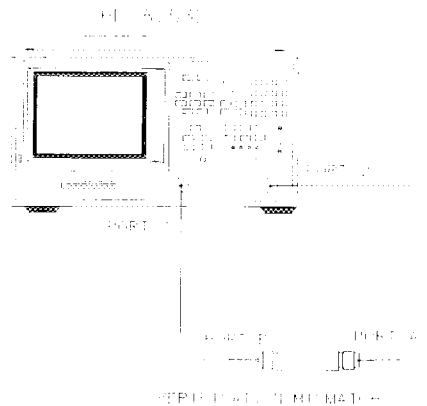

Figure 2-7. Mismatch Device Verification Setup
- 8 When the HP 8702D finishes all the measurements, connect the mismatch verification device, as shown in Figure 2-7. Notice that Port B is now connected to reference test port 1.